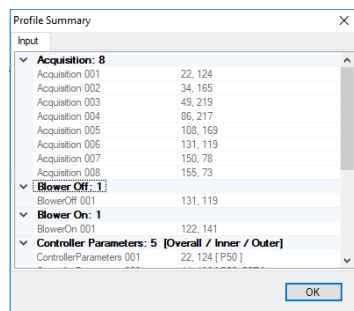
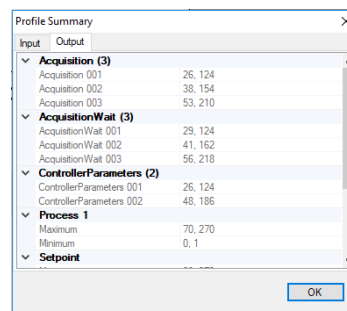

Figure 2.3 Profile Summary Input
Figure 2.4 Profile Summary Output
6. Summary: Displays the Maximum, Minimum, and Measurement Points for both Profile Input and Output (see **Figure 2.3** and **Figure 2.4**)